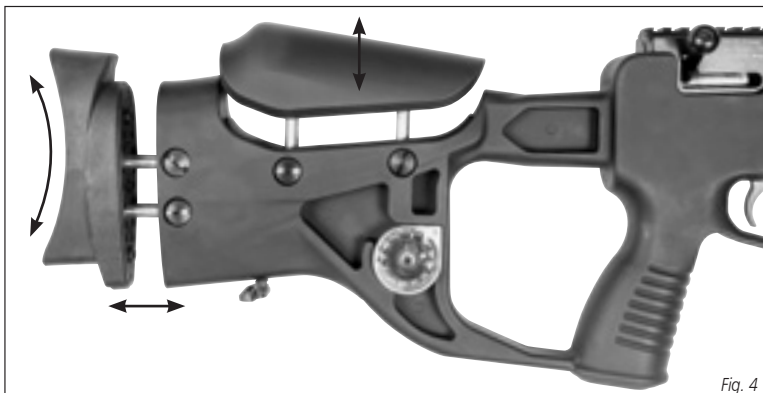

Fig. 4
**Comb Adjustment:** The Hatsan Barrage and BullMaster are equipped with an adjustable height comb. On the Hatsan Barrage, loosen the comb retention screws (Fig. 4), and set your desired height before tightening. On the Hatsan BullMaster, depress the comb adjustment button and set your desired height before releasing the button.
**Stock Length of Pull Adjustment (for Hatsan Barrage):** The butt pad is adjustable for length of pull. Simply loosen the 2 screws located on the right side of the stock and adjust the butt pad suitable to your reach. Then tighten the screws so the pad becomes solid. The screws can be adjusted with a suitable screw driver or with a coin.(Fig. 4)
**Butt Pad Adjustment (for Hatsan Barrage):**The butt pad is adjustable for height and it rotates slightly, providing you the perfect height and angle of the butt pad. In order to adjust the butt pad, simply loosen the bolt in the butt pad with a suitable hex wrench; and raise or lower it according to shooting preference. Then tighten the bolt.(Fig. 4)